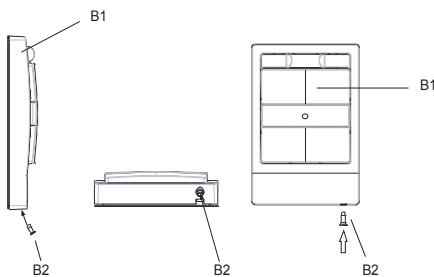

Figure 4
**Dismounting the IR wall switch (Figure 4)**